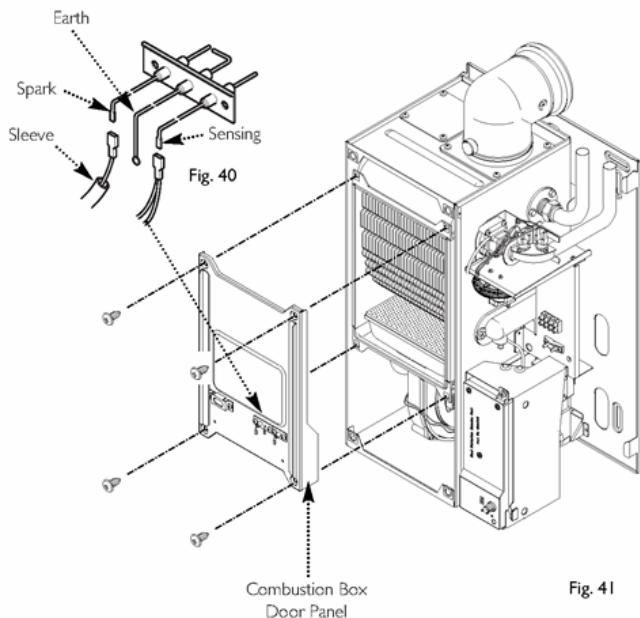

Fig. 40 & Fig. 41
8. Disconnect the leads from the centre and right hand terminals (earth and flame sensing probe) (Fig. 40). Reconnect in reverse order.